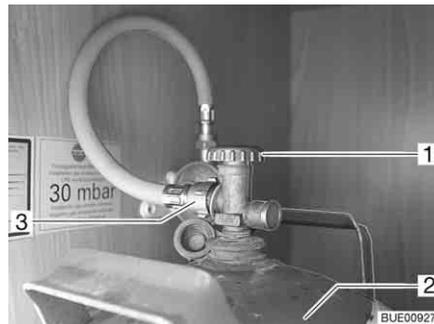

Fig. 129 Gas bottle compartment
- Close the regulator tap (Fig. 129,1) on the gas bottle (Fig. 129,2). Pay attention to the direction of the arrow.
- Unscrew the gas tube (Fig. 129,3) by hand from the gas bottle.